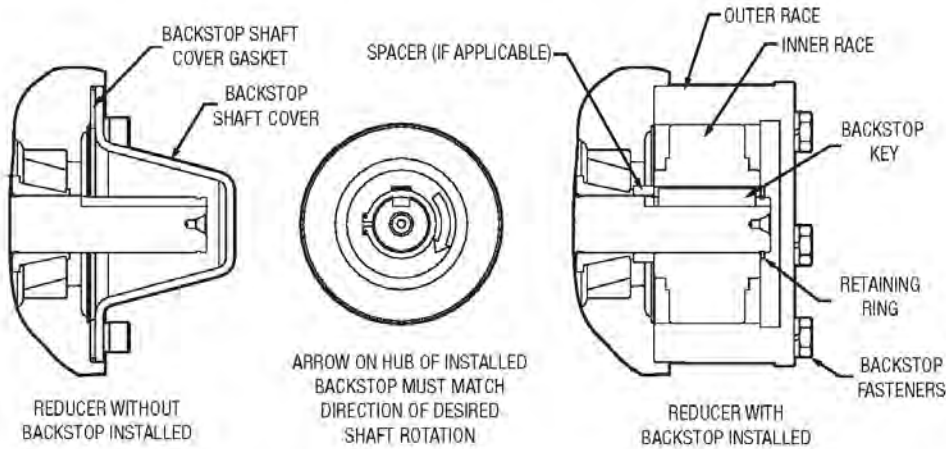

Figure 10 - Backstop Assembly
- Remove backstop shaft cover and gasket, shown in Figure 10. These parts will not be reused. This cover is directly opposite the extended end of the input shaft.